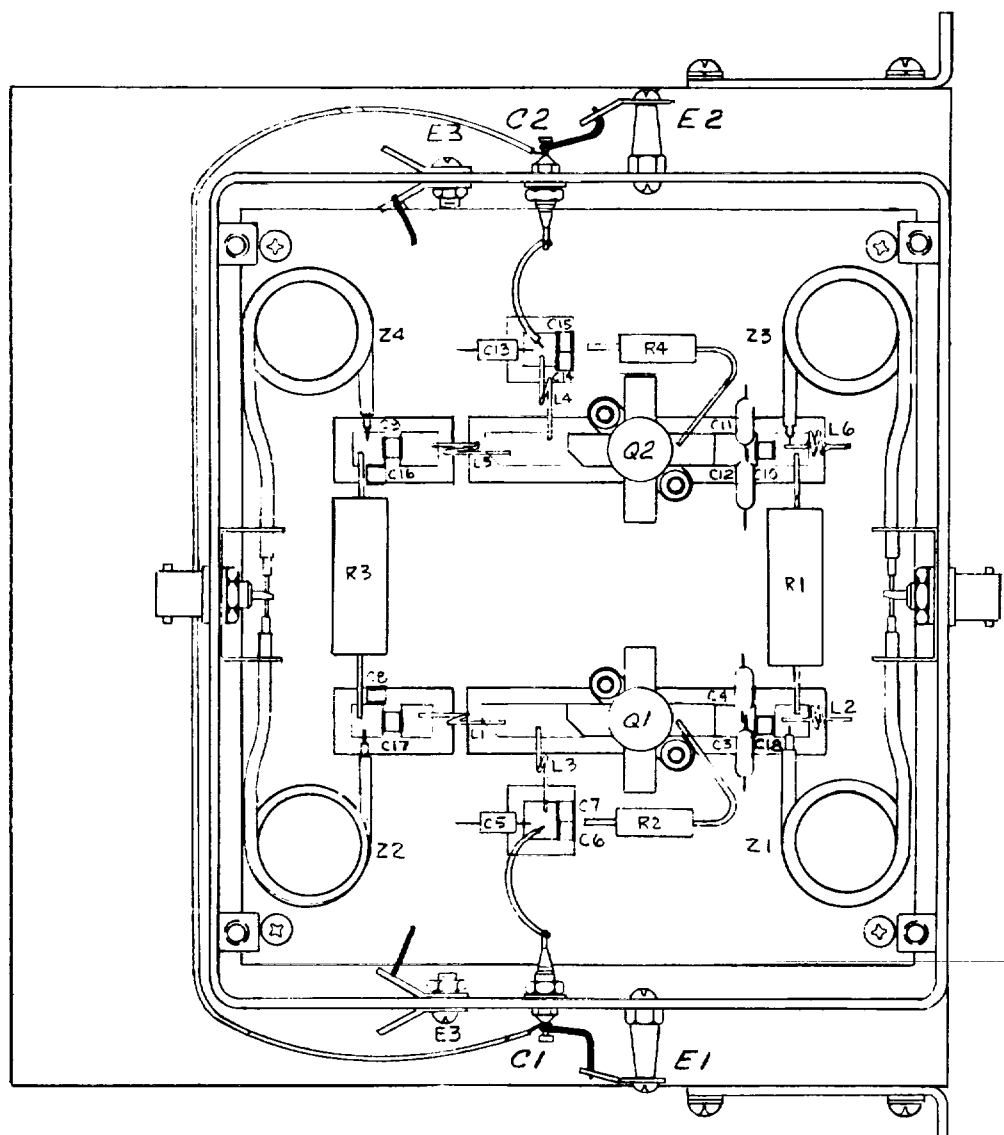

Figure 6-9. Power Amplifier Assembly, 1A4AR1 Parts Location Diagram
j. Power Amplifier Assembly (1A4AR1) Disassembly. To remove the power amplifier assembly from the radio transmitter (refer to figure 6-9), perform the following procedures. Further disassembly should be limited to removal of parts for repair or replacement. Refer to figure 6-9 for location of components to be replaced.
- (1) Disconnect the coaxial cables from the top and bottom of the power amplifier (1A4AR1).
- (2) Disconnect the wiring connectors (E1, E2, E3, C1 and C2) from the power amplifiers.
- (3) Remove two screws and washers holding the power amplifier in place.